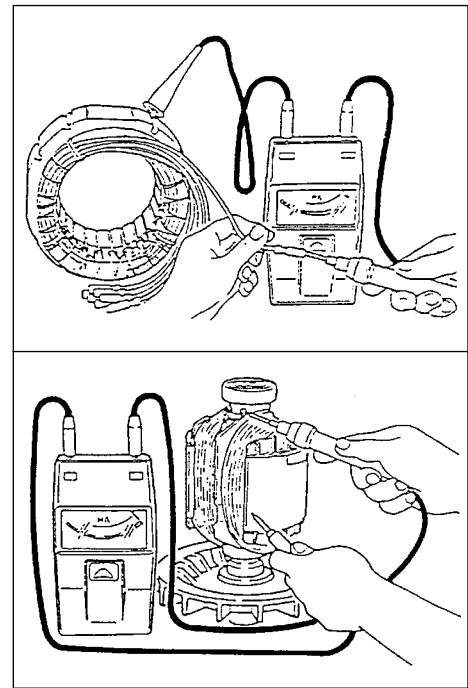

Figure 20: Measuring Resistance
- (1) This unit uses permanent magnets built into the rotor for initial excitation. Do not "flash the fields" to try to re-excite the field.
- (2) Isolate the defect by disconnecting the red, white, black and blue wires from the stator (do not disconnect the two yellow wires). Then measure the AC voltage of each AC coil.
- (3) Check for 120 vac ($\pm 5\%$) from the red-white wires and then check for 120 vac ($\pm 5\%$) from the black-blue wires.
- (4) If the voltage is correct, the failure is in the control panel. If the voltage is too low from either coil, the defect lies in the rotor, stator, or condensers.
B. MEASURING INSULATION RESISTANCE (refer to Figure 20)
- (5) No AC output - Measuring Insulation Resistance
- (6) Use a megger tester to test each component for proper insulation. An insulation resistance of $1\text{ M}\Omega$ or greater is normal. The insulation resistance from the factory is at least $10\text{ M}\Omega$.
- (7) Insulation Resistance - Stator
- (8) Insulation Resistance - Rotor